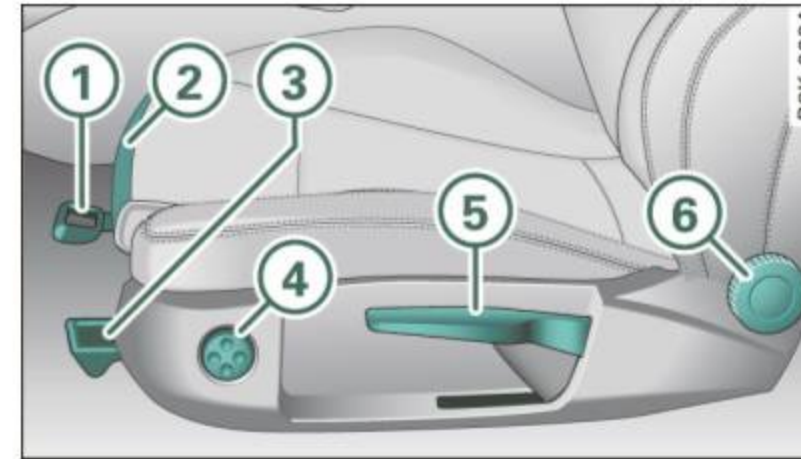

Fig. 68 Controls on the driver's seat
- Pull the lever  ⇒ page 74, fig. 68 up and push the seat to the desired position.
- Pull or push the lever  ⇒ page 74, fig. 68 up or down (pumping motion).
- Turn the hand wheel  ⇒ page 74, fig. 68 to adjust the angle of the seatback accordingly.